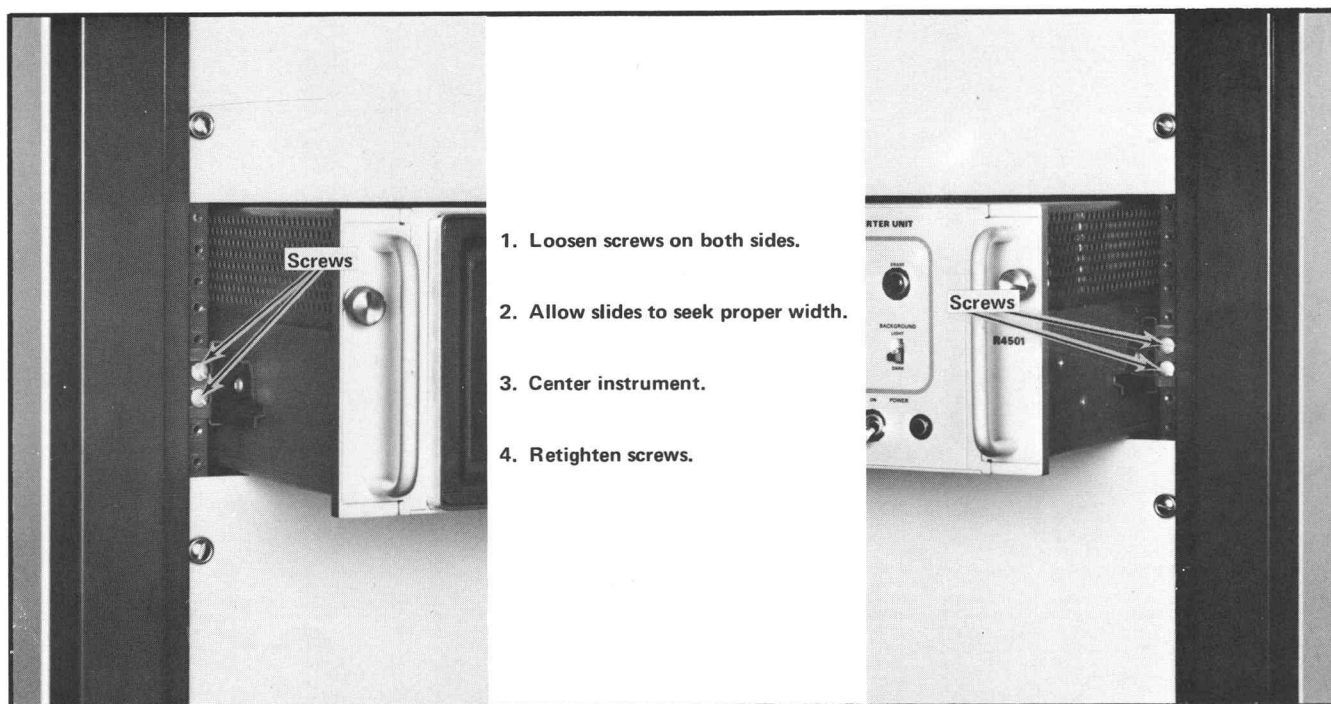

Fig. 6-9. Adjusting the slide-out tracks for smooth sliding action.
2. Adjust the slide-out tracks for proper spacing as shown in Fig. 6-9.